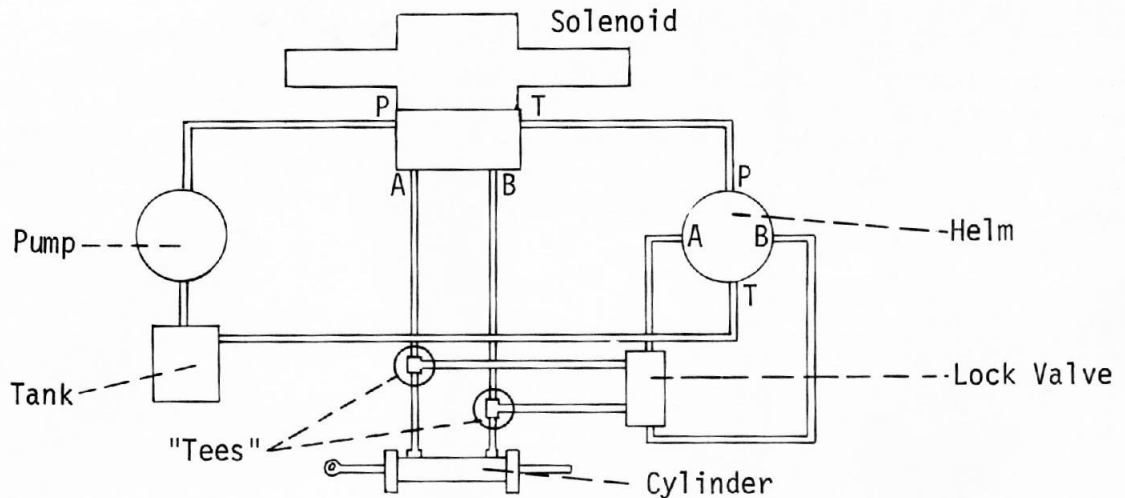

FIGURE 32. DIAGRAM OF SOLENOID INSTALLATION
2. Cut the pressure line coming from the pump to the helm and connect the pump side of the line into the "P" port of the Solenoid valve. See Figure 32.